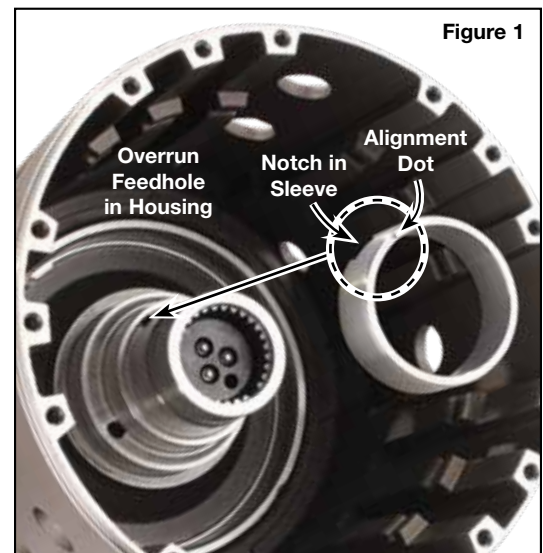

Figure 1
- Coat the inside of the sleeve with green Loctite® 609. Align the notch in the sleeve with the overrun feedhole in the housing (**Figure 1**). Set the sleeve into position on the input drum, keeping the notch in the sleeve aligned with the overrun feedhole in the housing.